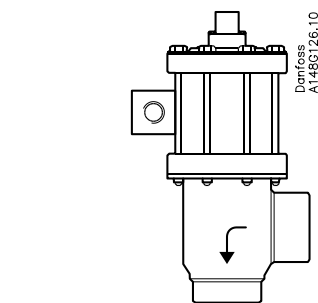

Fig. 2a
GPS valves in sizes DN 100 to DN 150 are always installed in vertical position fig. 2a.
**IMPORTANT:** The flow direction must be from the side branch towards the cone (fig. 2a+2b).